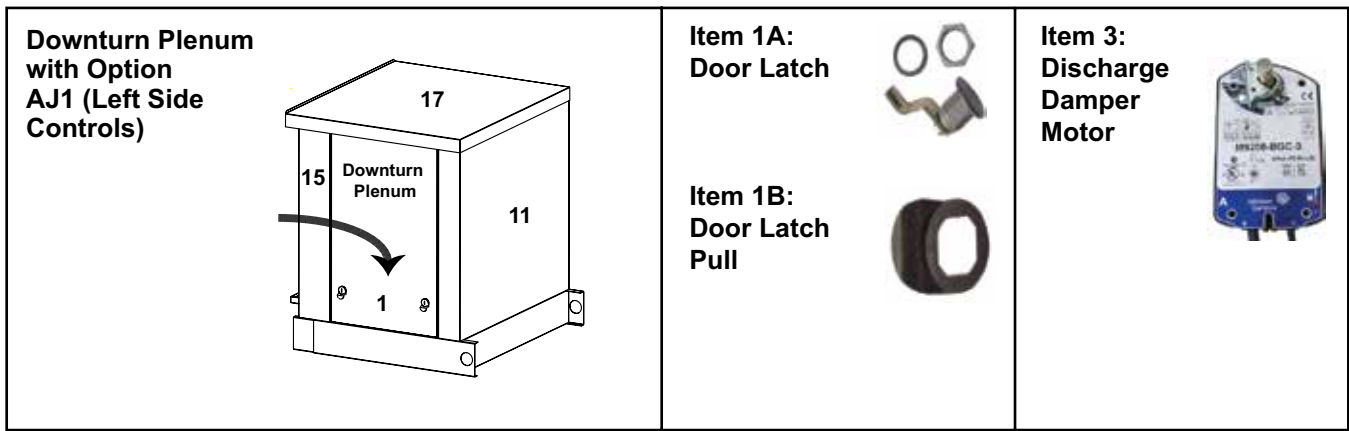

Figure 36. Option AQ5 or AQ8: Downturn Plenum for Bottom Discharge (Refer to Table 55)
- Double-walled downturn plenum for bottom discharge (refer to Figure 36 and Table 55) is factory-installed on models RDH, RXH, REH, and RHH: